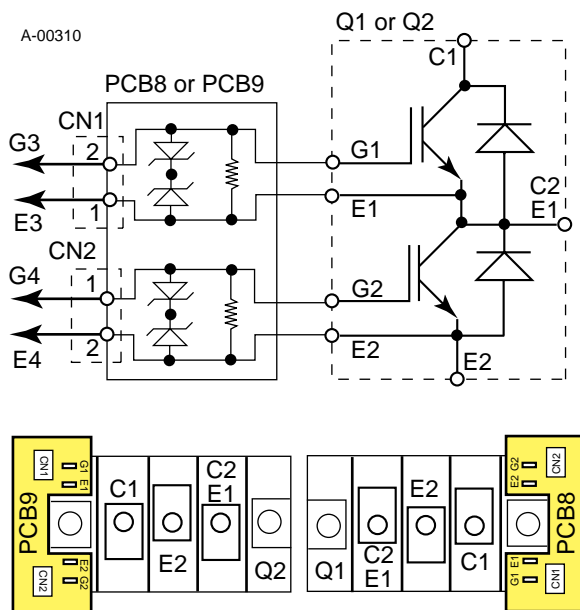

Figure 4-E Testing IGBT Module (Q1 & Q2) Assembly
3. The IGBT module contains two diode sections. One diode is across C2E1 (anode) to C1 (cathode) and one is across E2 (anode) to C2E1 (cathode). Test each diode section in the forward (anode to cathode) and reverse (cathode to anode) direction (refer to Figure 4-E). A properly functioning diode conducts in the forward direction (meter indicates 0.3 to 0.9 volts) and blocks in the reverse direction (meter indicates an open).